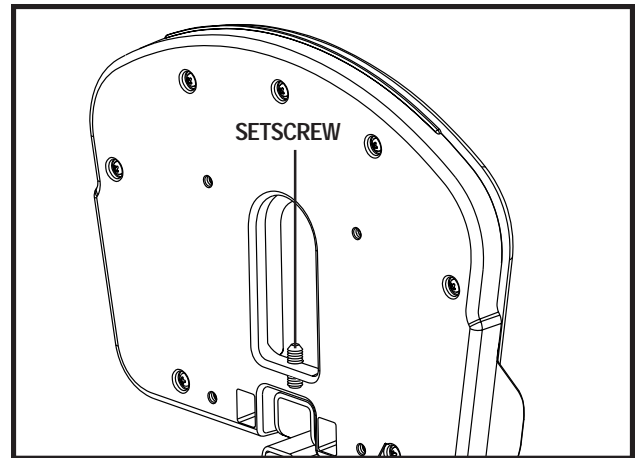

Figure 22. Underside of Footrest
1. Locate the setscrew on the underside of the foot platform. See figure 22.